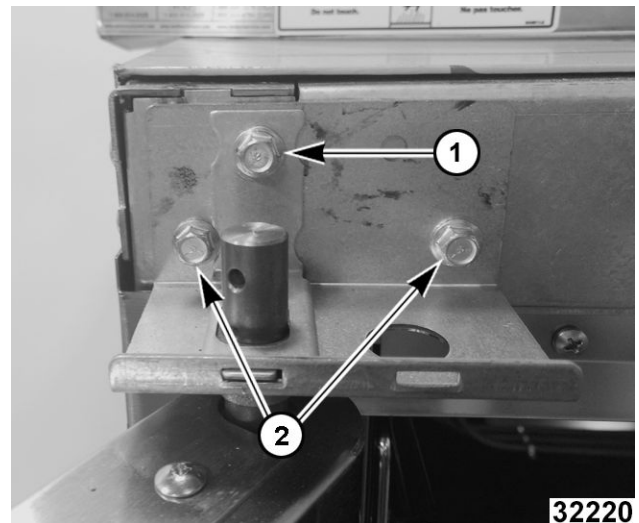

Fig. 35
3. While supporting door, remove hex bolts holding upper bearing retainer (1, Fig. 35 ) and upper shaft bracket (2, Fig. 35).